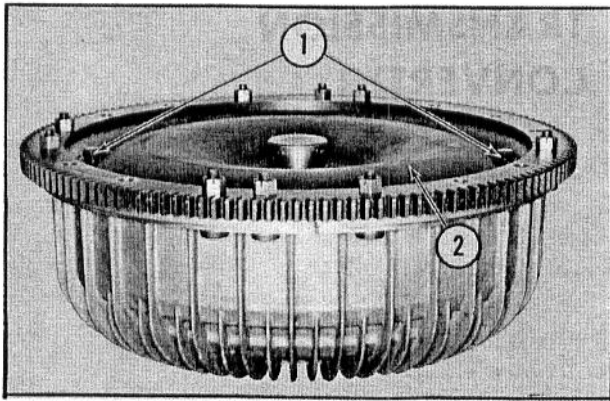

Fig. 1 - Torque Converter
1. Remove the cover to impeller mounting bolts then remove front cover. See Figs. 1 and 2.